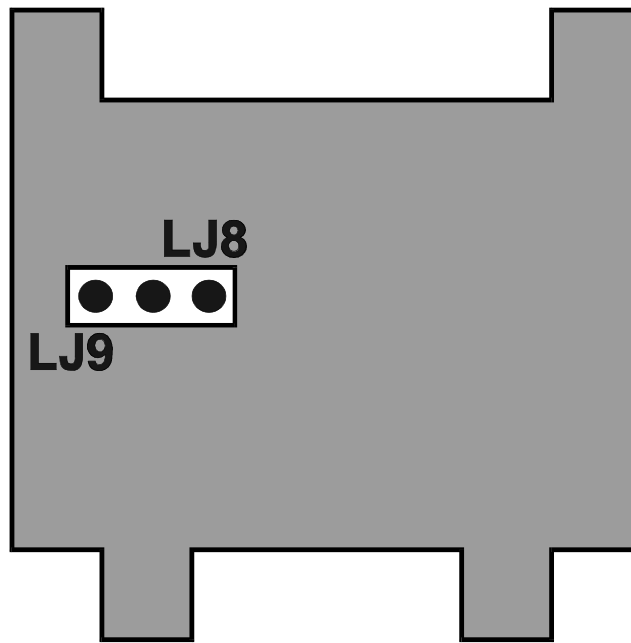

Figure 2-7 DC Output 2 Option PCB
The type of output for Output 2 and Output 3 is determined by the Option PCB fitted in the appropriate position (see Figure 2-1) and, in the case of the DC Output 2 Option PCB being fitted, the setting of Link Jumpers LJ8 and LJ9 on that Option PCB (see Figure 2-7 and Table 2-2). There are three types of option PCB:
2. DC Output Option PCB (link jumpers as in Figure 2-7 and Table 2-2) - Output 2 only